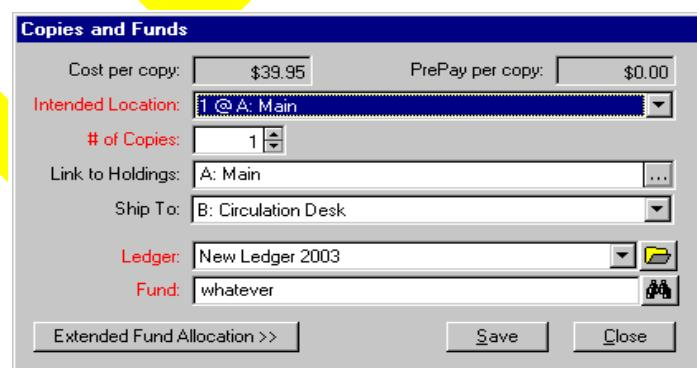

Figure 13-14. Copies and Funds dialog box - ellipsis displayed beside the Link to Holdings field
- The ellipsis button beside the **Link to Holdings** field on the **Copies and Funds** dialog box (Figure 13-14). The **Copies and Funds** dialog box can be displayed from the **Copies/Funds** tab of a line item. See Copies/Funds Tab on page 6-46.